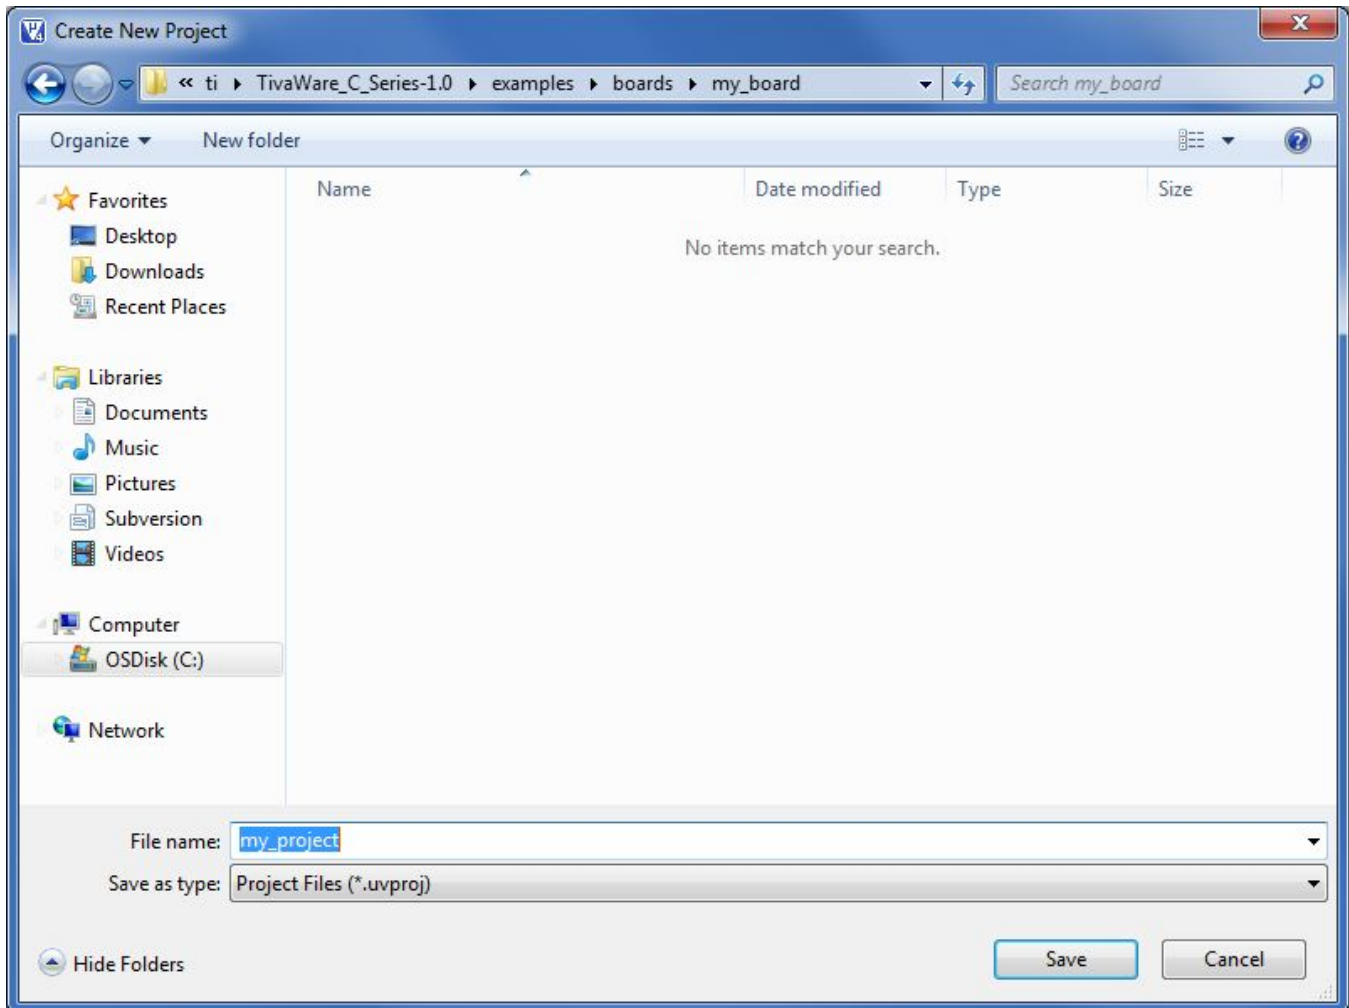

Figure 12.
- The Create New Project dialog box appears (see Figure 12). Create the project within the TivaWare tree by either saving it in the existing *ti\TivaWare_C_Series-n.n\examples\boards* directory, or creating a new item in the boards directory that corresponds to your specific board or development.
The TivaWare tree now looks like: `C:\ti\TivaWare_C_Series-1.0\examples\boards\my_board\my_project` (see Figure 12).